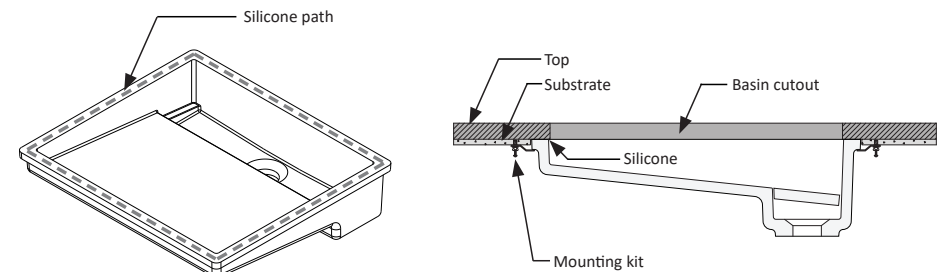

Figure 4.
- Place waste through the basin with seals in place and tighten nut to secure waste in basin. See figure 4.